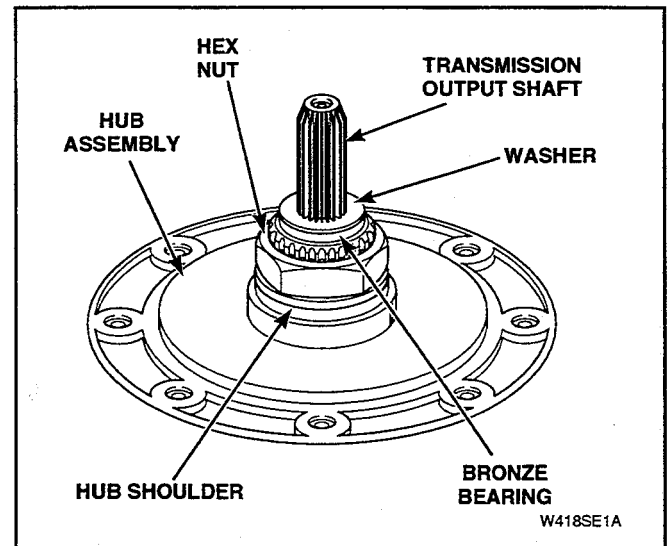

Figure 5-29
- j. Remove large hex nut using a No. 306P4 Hex Wrench. See Figure 5-29.